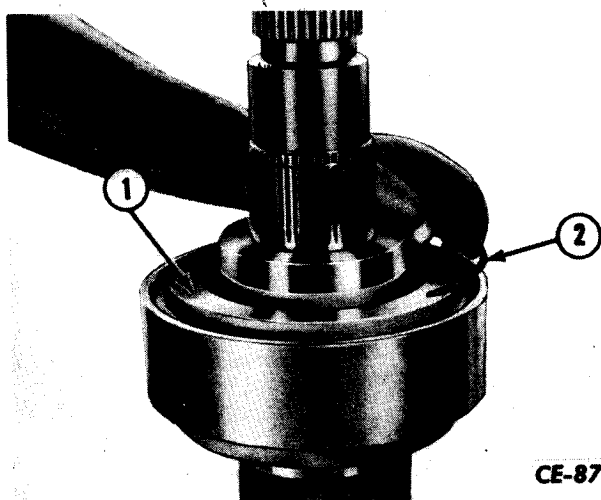

Figure 4-98
Using a plastic mallet, tap clutch piston (1, Fig. 4-98) down making snap ring (2) accessible. Remove snap ring.